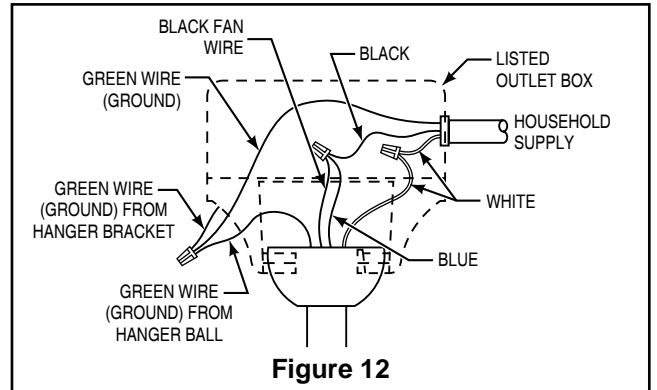

Figure 12
- 1. Connect the green grounding lead from the hanger ball and the green grounding lead from the hanger bracket to the supply grounding conductor (this may be a bare wire or wire with green colored insulation). Securely connect wires with wire connectors supplied. (Figure 12)
- 2. Securely connect the white fan motor wire to the white supply (neutral) wire using wire connector supplied. Securely connect the black fan motor wire and blue wire to the black supply wire using wire connector supplied. (Figure 12)